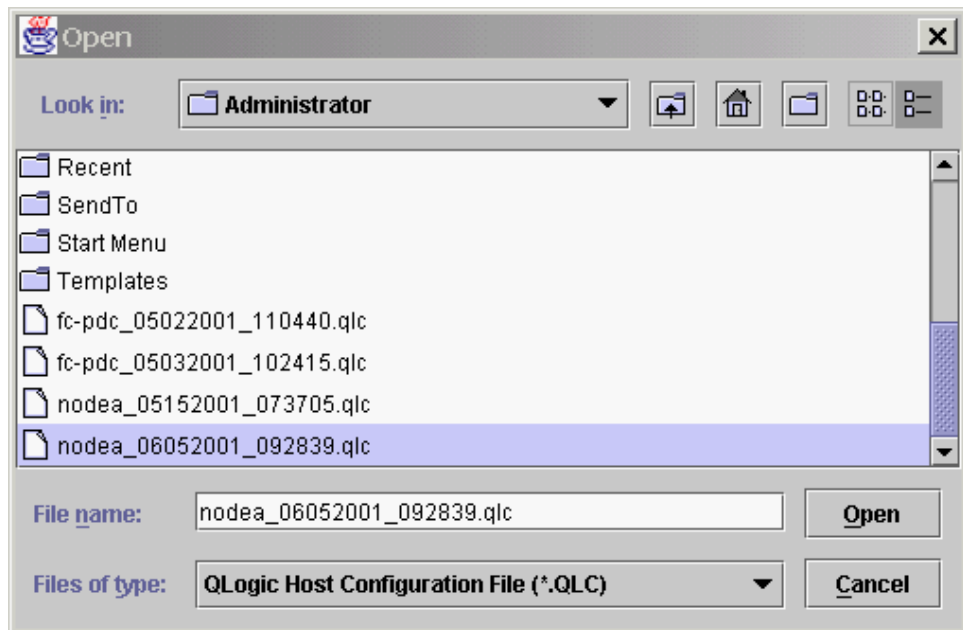

Figure 91. Open window
2. In the Open window, click the file you want to load, and then click **Open** (see Figure 91).